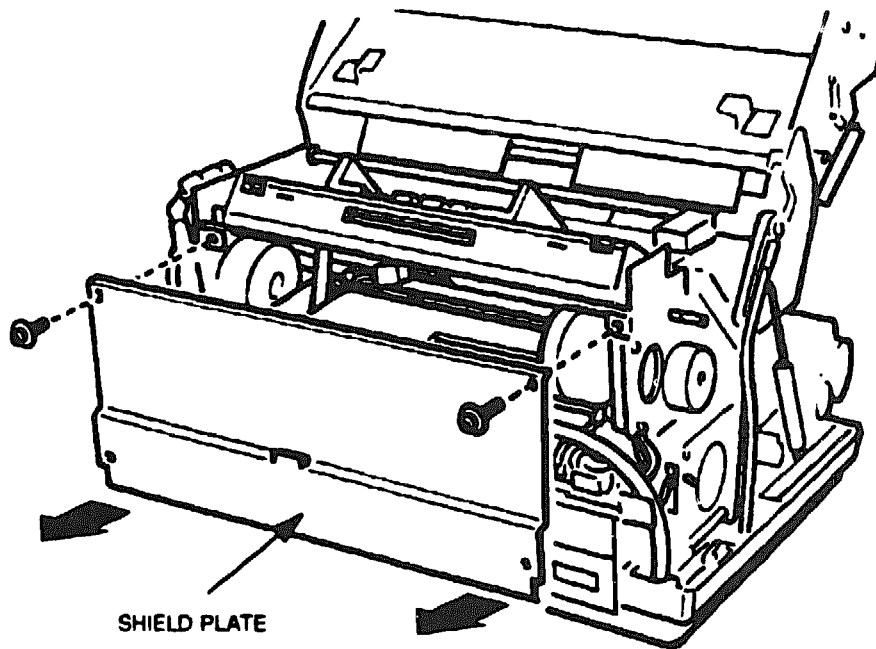

Figure 6-21 Shield Plate Removal
3. Remove the two shield plate screws and lift the shield plate off (see Figure 6-21).